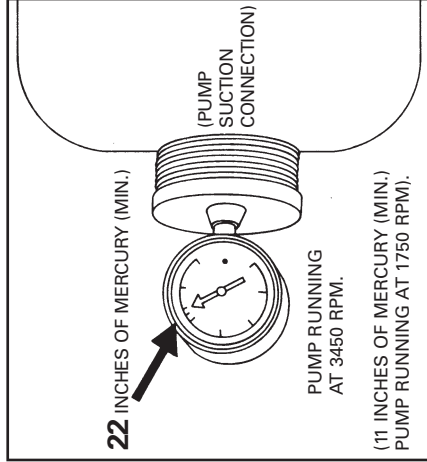

FIGURE 4
2. Shut off power source to pump. Shut off valves to and from pump. While observing all safety precautions for the liquid being pumped, disconnect suction and discharge lines and drain the pump completely. Fill the pump with water. Install a vacuum gauge in the suction port (see figure 4). Turn on power source. Vacuum should exceed 22" of mercury when pump shaft is rotating at 3450 RPM and should equal or exceed 11" of mercury with pump shaft at 1750 RPM. If vacuum is below these values, check the following: